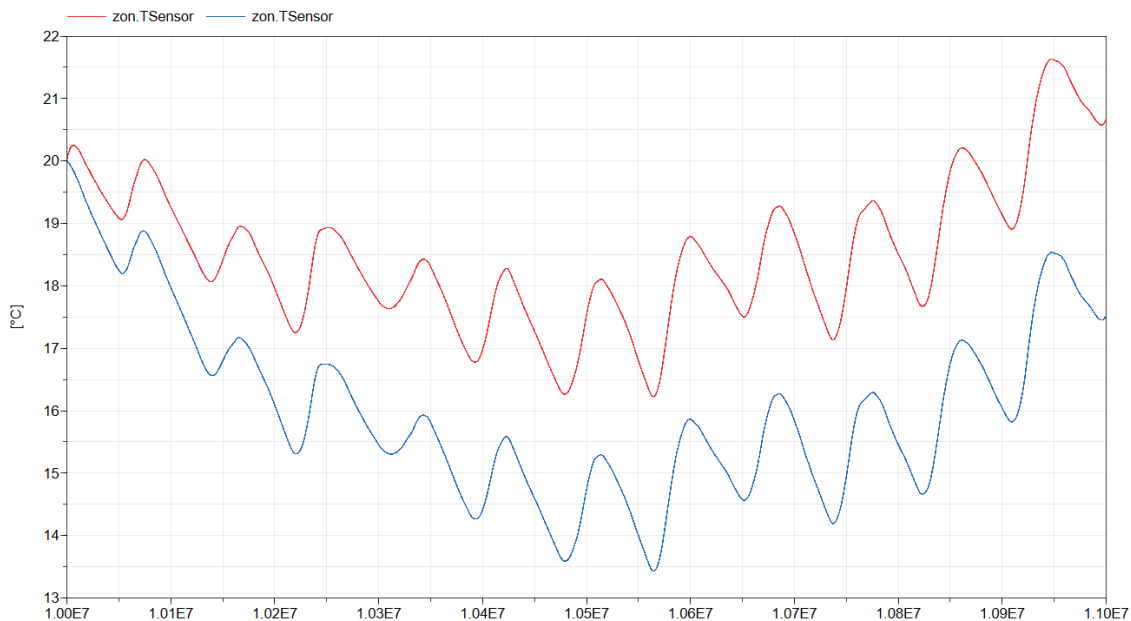

Figure 3: Zone temperature without (blue) and with (red) occupant and lighting (both with screen model).
**Reference result** The result with and without the occupant and lighting is plotted in Figure 3. If you observe no difference between both results, it is likely that you forgot to set the number of occupants, which is an option of IDEAS.Buildings.Components.Occupants.Fixed with a default value of 0.